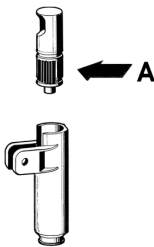

figure 2
- 2 Lubricate the faucet piston (in the area A shown in fig. 2) using food grade approved lubricant.